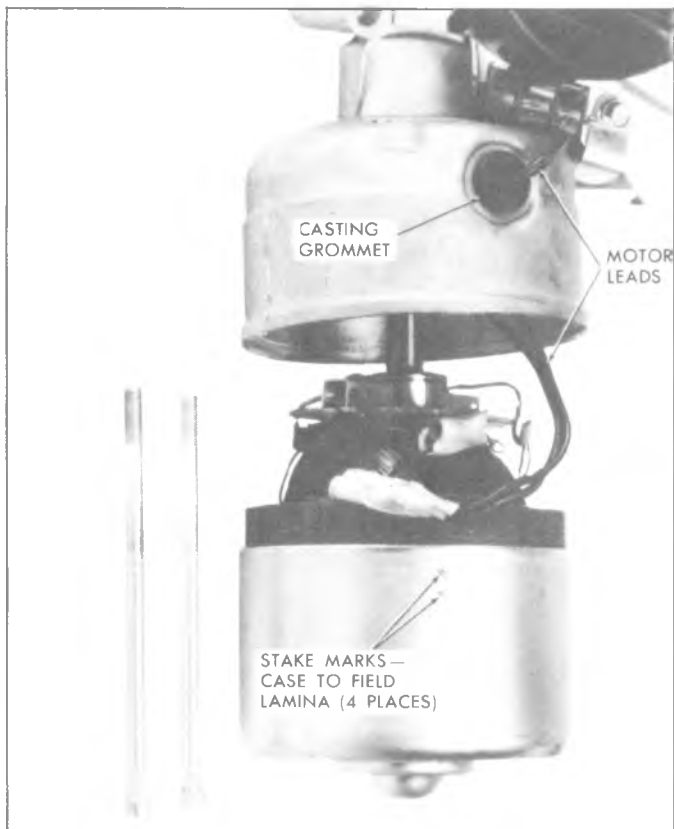

Fig. 8-30 - Wiper Motor Separation
3. Feed exposed excess length of motor leads through the casting grommet and carefully back the case and field assembly plus the armature away from the casting (fig. 8-30).